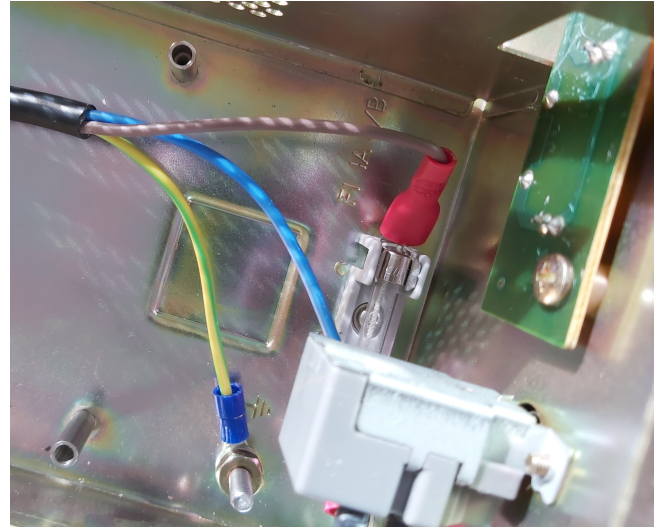

Figure 5.3: Connect the Ground (green) and Live (brown) wires.
4. Firmly push the spade connector onto the fuse holder terminal. Loop the ring connector over the vertical 'ground' post and secure it in place with a nut (as shown in Figure 5.3). Note that the fuse itself does *not* need to be replaced.